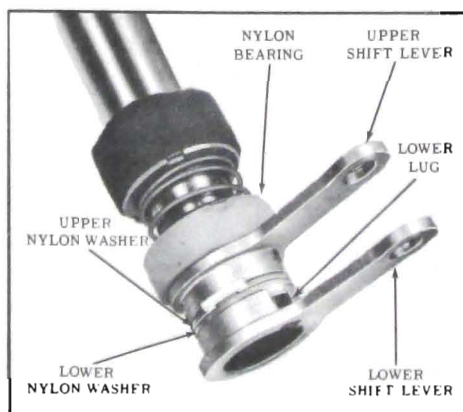

Figure 8-87—Control Shaft Assembly Ready to be Installed in Mast Jacket
6. Install the lower shift lever on control shaft so that the opening in lever engages the lug on the control shaft. Position lower nylon washer so that its tab engages the opening in the lower shift lever. See Figure 8-87.